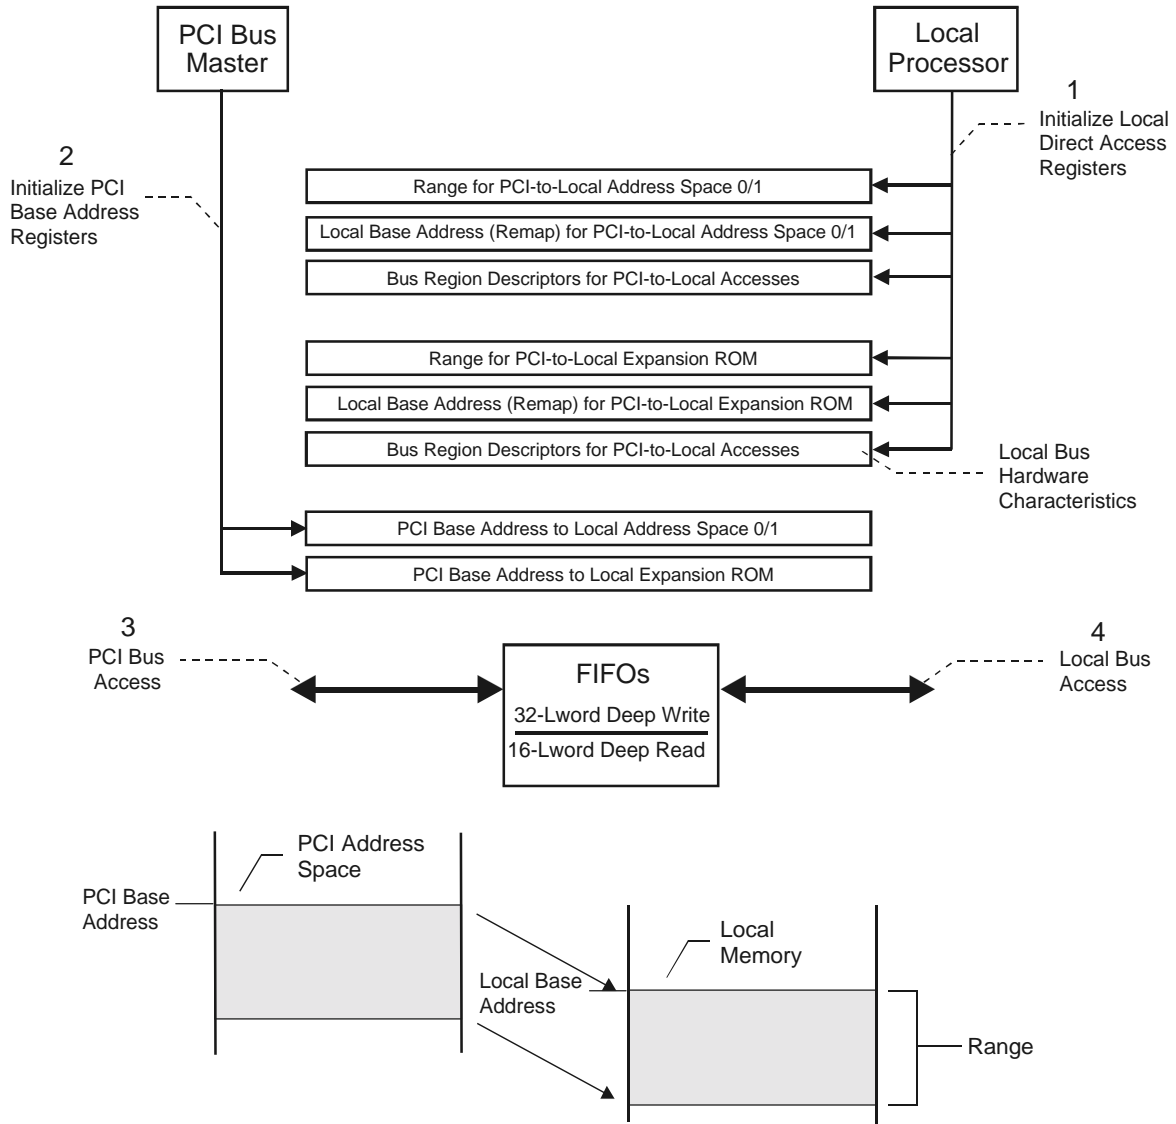

Figure 3-10. Local Bus PCI Target Access
A fourth register, the Bus Region Descriptor register for PCI-to-Local Accesses (LBRD0 and/or LBRD1), defines the Local Bus characteristics for the PCI Target regions (refer to Figure 3-10).
After a PCI reset, the software determines how much address space is required by writing all ones (1) to a PCI Base Address register and then reading back the value. The PCI 9054 returns zeroes (0) in the Don’t Care Address bits, effectively specifying the address space required. The PCI software then maps the Local Address space into the PCI Address space by programming the PCI Base Address register. (Refer to Figure 3-10.)